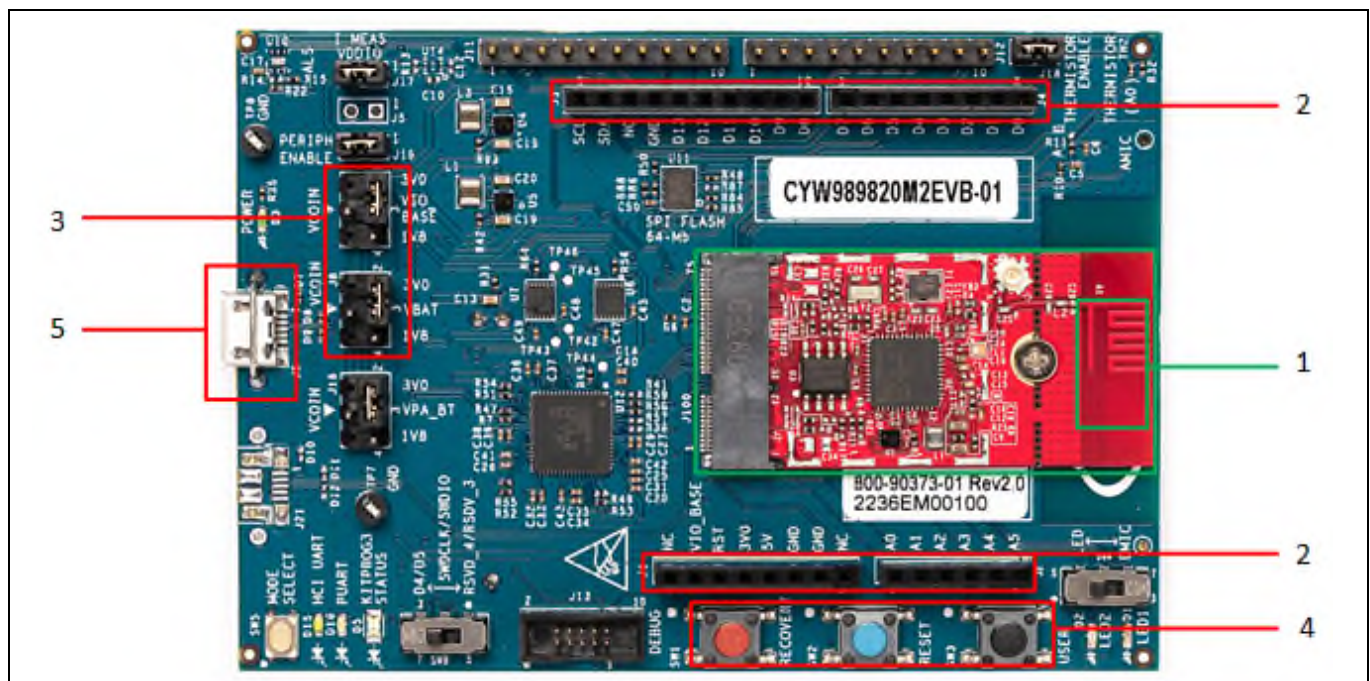

Figure 2 CYW989820M2EVB-01 evaluation board
Figure 2 shows CYW989820M2EVB-01 evaluation board with the following features:
1. Verify that all the jumpers are in the default configuration as shown in **Table 4** to **Table 9**, so that Peripheral UART is selected and can display embedded application trace messages. **Figure 2** shows the default jumper locations.